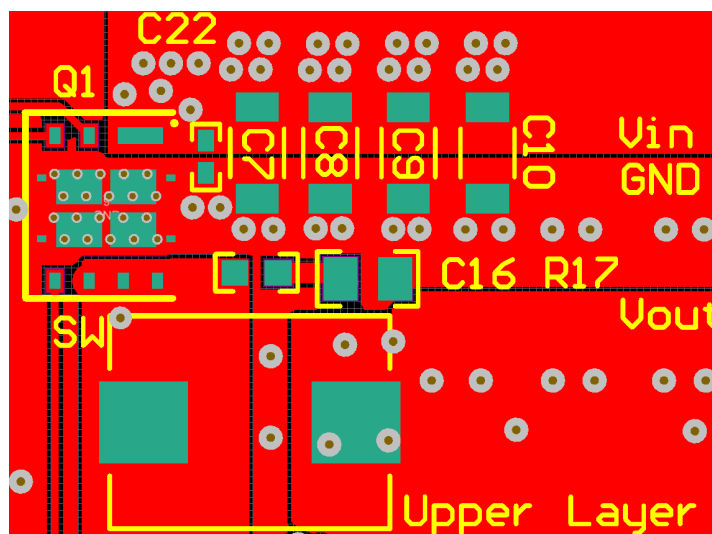
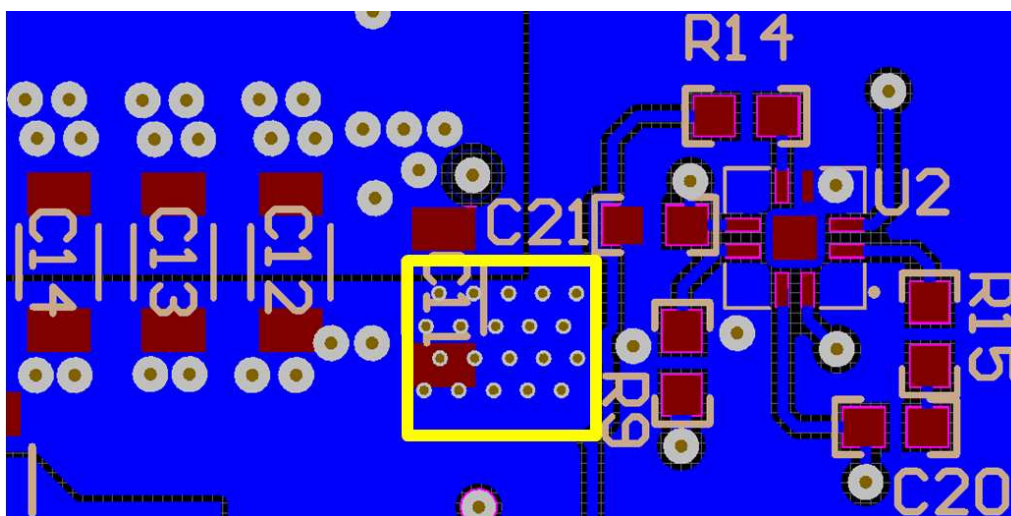

Figure 33. Recommended PCB Layout (Top Down View)
Figure 34. Recommended PCB Layout (Bottom View) ⁽²⁾
- The placement of the input capacitors relative to the power block's VIN and PGND pins should have the highest priority during the component placement routine. It is critical to minimize these node lengths. As such, ceramic input capacitors need to be placed as close as possible to the VIN and PGND pins (see Figure 33 and Figure 34). It is recommended that one 3.3-nF (or similar), 0402, 50-V ceramic capacitor be placed on the top side of the board as close as possible to VIN and PGND pins. In addition, a minimum of 40 μ F of bulk ceramic capacitance should be placed as close as possible to the power block in a design. For high-density design, some of these ceramic capacitors can be placed on the bottom layer of PCB with appropriate number of vias interconnecting both layers.
- The switching node of the output inductor should be placed relatively close to the power block VSW pins. Minimizing the node length between these two components will reduce the PCB conduction losses and actually reduce the switching noise level. In the event the switch node waveform exhibits ringing that reaches undesirable levels, the use of a boost resistor or RC snubber can be an effective way to easily reduce the peak ring level. The recommended boost resistor value will range between 1.0 Ω to 4.7 Ω depending on the output characteristics of driver IC used in conjunction with the power block. The RC snubber values can range from 0.5 Ω to 2.2 Ω for the R and 330 pF to 2200 pF for the C. Please refer to Snubber Circuits: Theory, Design and Application (SLUP100) for more details on how to properly tune the RC snubber values. The RC snubber should be placed as close as possible to the VSW node and PGND (see Figure 33 and Figure 34).⁽¹⁾
(1) Keong W. Kam, David Pommerenke, "EMI Analysis Methods for Synchronous Buck Converter EMI Root Cause Analysis", University of Missouri – Rolla
- Use the smallest drill size allowed in your design. The examples in Figure 33 and Figure 34 use vias with a 10-mil drill hole and a 16-mil capture pad.
(2) The yellow box on Figure 34 signifies an approximate location of the power block on the upper layer.